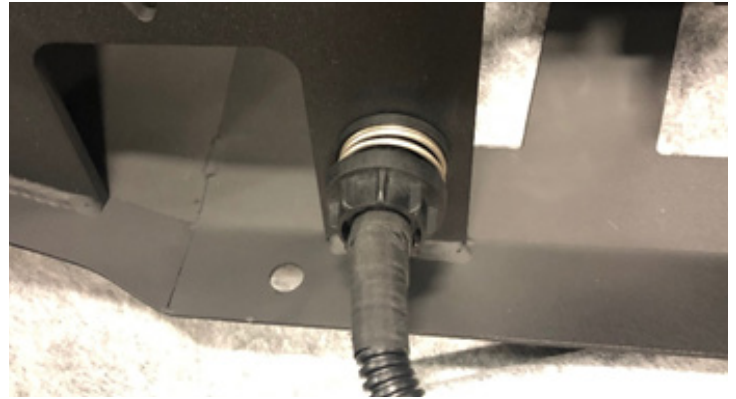

Figure 23
22. Reinstall the heater plug on the driver side mounting plate by reversing the steps used to take it off. Figure 23.